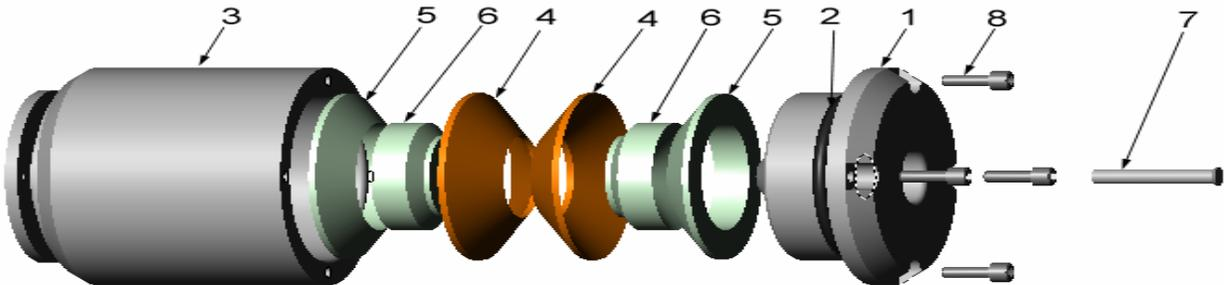

Figure 1: Exploded View, sizes 3.43-in - 3.812-in
1.7 Insert the Booster Cartridge (item #7) through the hole in the explosive assembly until the flared end seats in the Cap. See Figure 1.